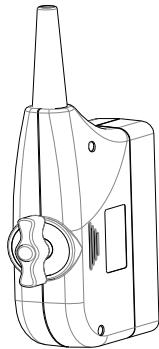

Figure 1 Connecting the transducer
- 3 Turn the lock clockwise for 90°. See figure 1 below.